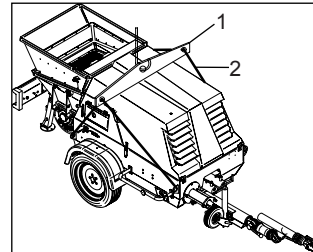

Fig. 5
To lift the machine, use the provided attachment points (Fig. 5), using a yoke (Fig. 5 Ref. 1) (not provided) and n°4 straps (not provided).
- ⚠ - Caution! Never use attachment points other than as specified in the figure (Fig. 5) to lift the machine.